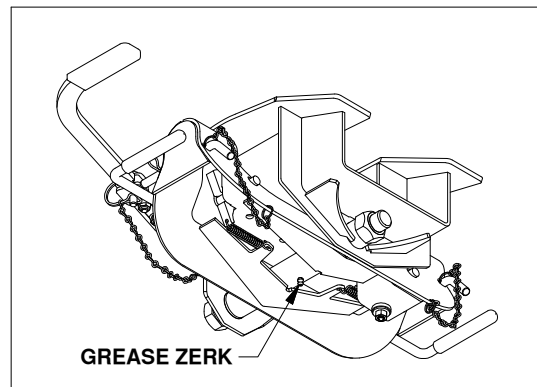

FIGURE G1: View under coupler.
- Grease the saddle through the grease zerk approximately every six months with multi-purpose grease. this allows the coupler to pivot freely, see Figure G1.